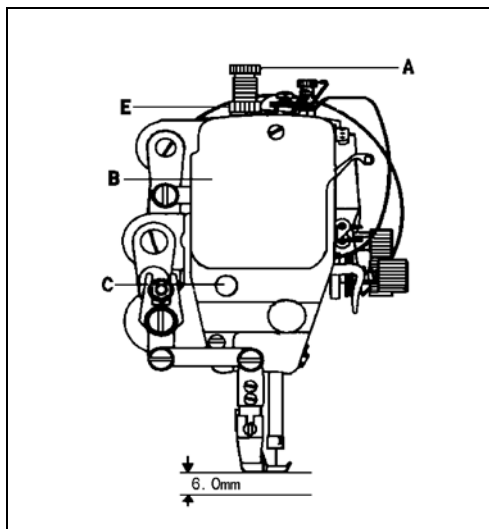

Fig. 9
3) Do not overfill the bobbin. The optimum length of thread will fill about 80% of bobbin capacity. This can be adjusted by Adjusting Screw (E) of bobbin winder stop latch.
10. POSITION PRESSER BAR (Fig.9)